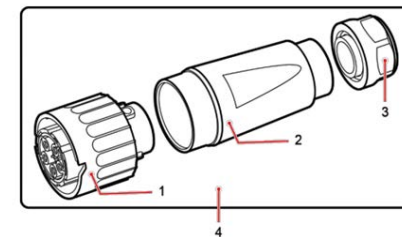

Fig.3-34
- 1) AC output connector contains three parts: plug, adapter and cable gland. See Fig.3-34